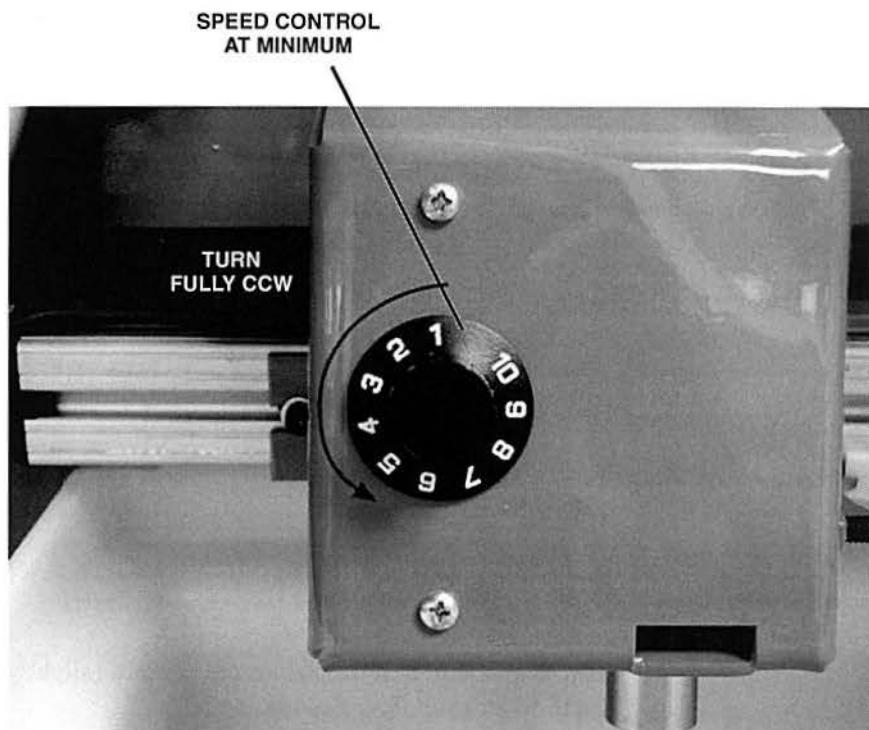

Figure 9. Agitator Speed Control Set to Minimum Setting
- 3. Make sure the **Agitator Motor** selector switch on the Operator Interface Panel is in the **OFF** position (CCW) and the **Speed Control** for the agitator shown in figure 9 is set to the minimum setting (fully counterclockwise). The agitator speed control is located just above the reactor tank.